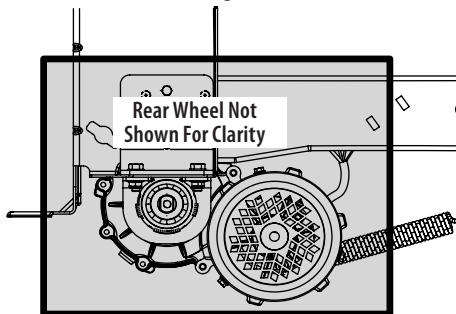

Figure 16
- Clean around and near the transmission and axle. See Figure 16.